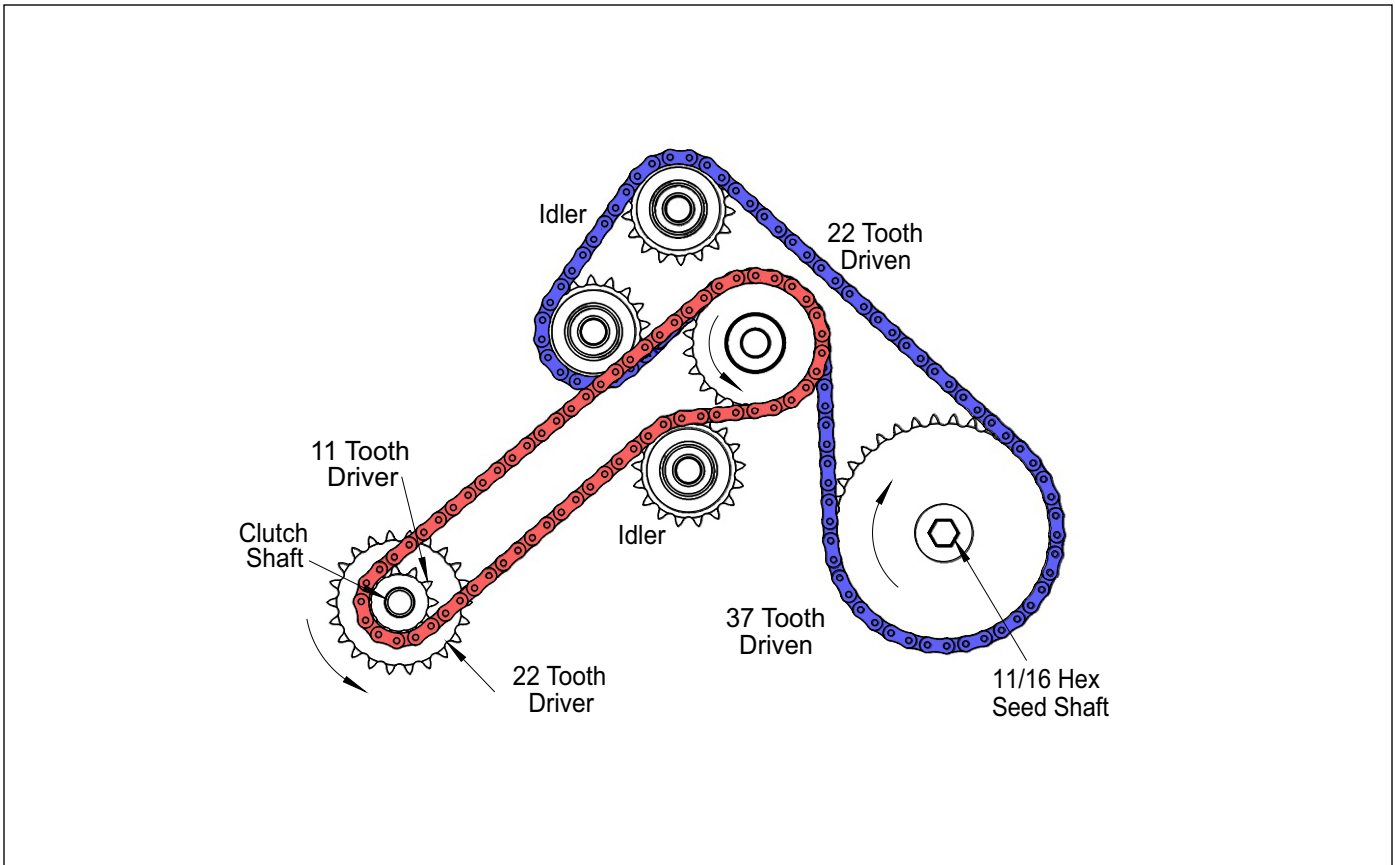

Figure 3-14: Front Seed Box Transmission Drive (After 01/2020)
5. Turn 11/16 hex Seed Shaft on the Transmission Clockwise(CW). See Figure 3-14.